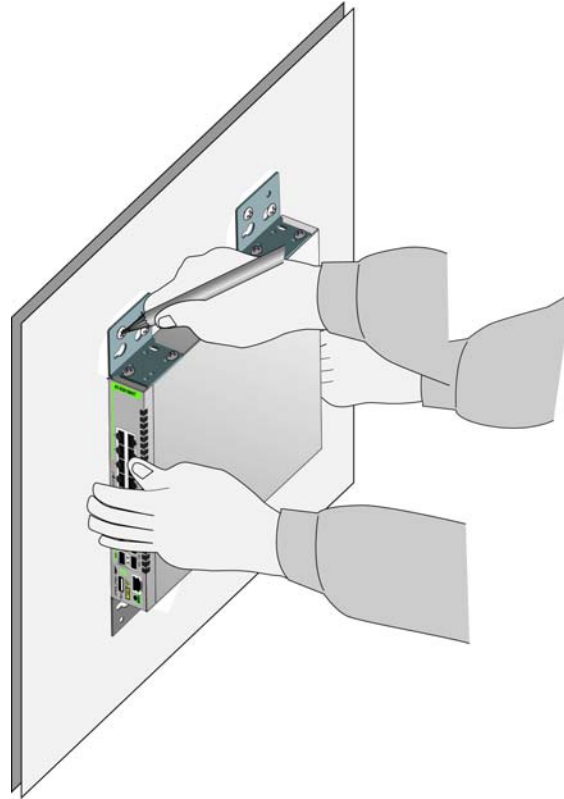

Figure 37. Marking the Locations of the Bracket Holes on a Concrete Wall
3. Have another person hold the switch on the concrete wall at the selected location for the device while you use a pencil or pen to mark the wall with the locations of the four screw holes in the four brackets (one screw per bracket). Refer to Figure 37 on page 65.